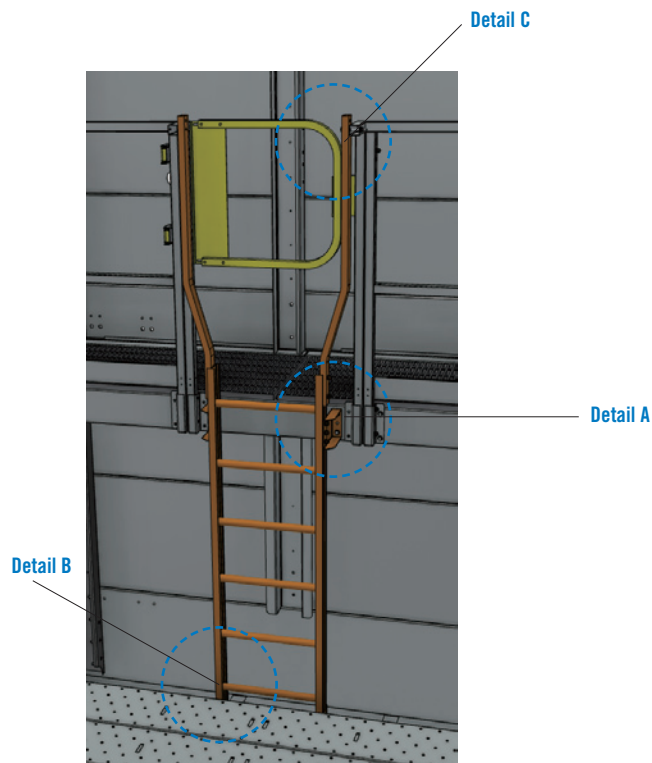

Figure 14. Internal Service Platform Ladder
1. Attach ladder bracket to the access platform using 3/8" (10mm) bolts provided. See **Figure 14, Detail A**.